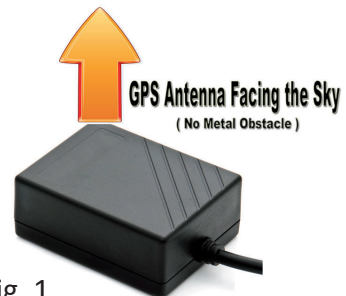

Fig. 1
- To get optimum GPS signal function make sure to install the main unit with the front part facing the sky. (See Fig. 1)